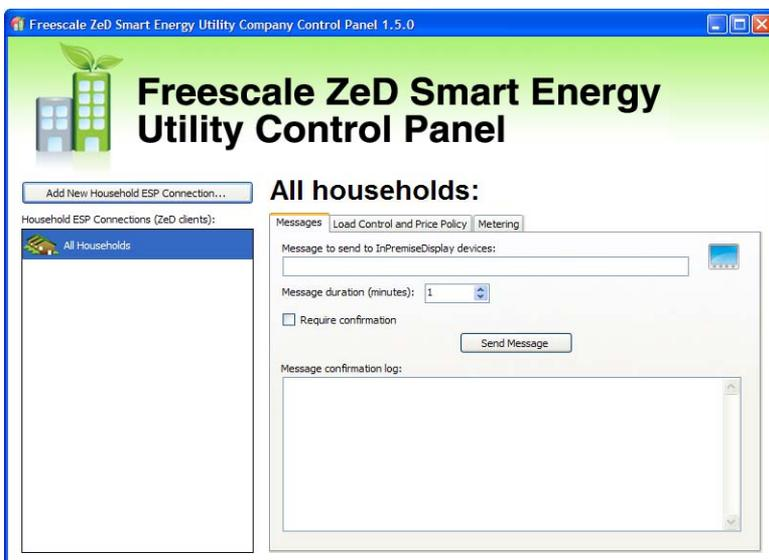

Figure 18. ZeD SE Control Panel
1. To launch the Control Panel, from the ZeD Tools menu choose Start -> SE Utility Control Panel. The panel appears as shown in Figure 18.